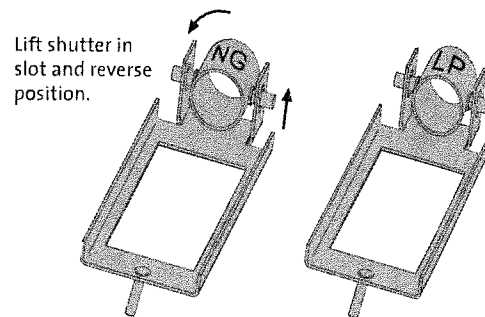

Figure 15. Changing the Air Shutter orientation.
3. Change the Air Shutter position: Lift the shutter tube up in its hinge pin slots and turn the tube over, so that the appropriate fuel type indicator (LP or NG) is oriented facing you. See fig. 15.